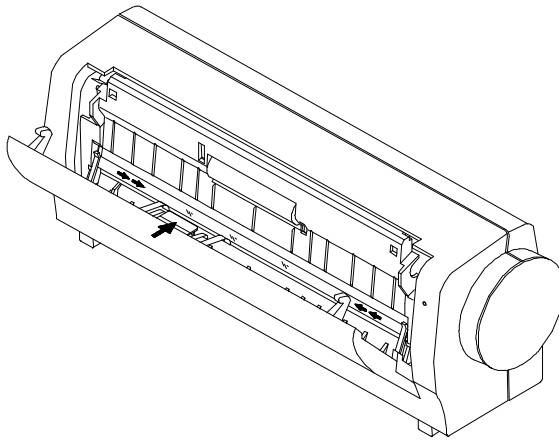

Figure 5-2 Clean the window glass.
- 4) Wipe where the window glass is contaminated, which is manifested by the constant appearance of a vertical line on some specific part of the scanned image. (See Figure 5-2)
As shown in Figure 5-2, clean the window glass with an air-blower or a small brush to rid the glass of dust or dirt. Please handle with care and dexterity.